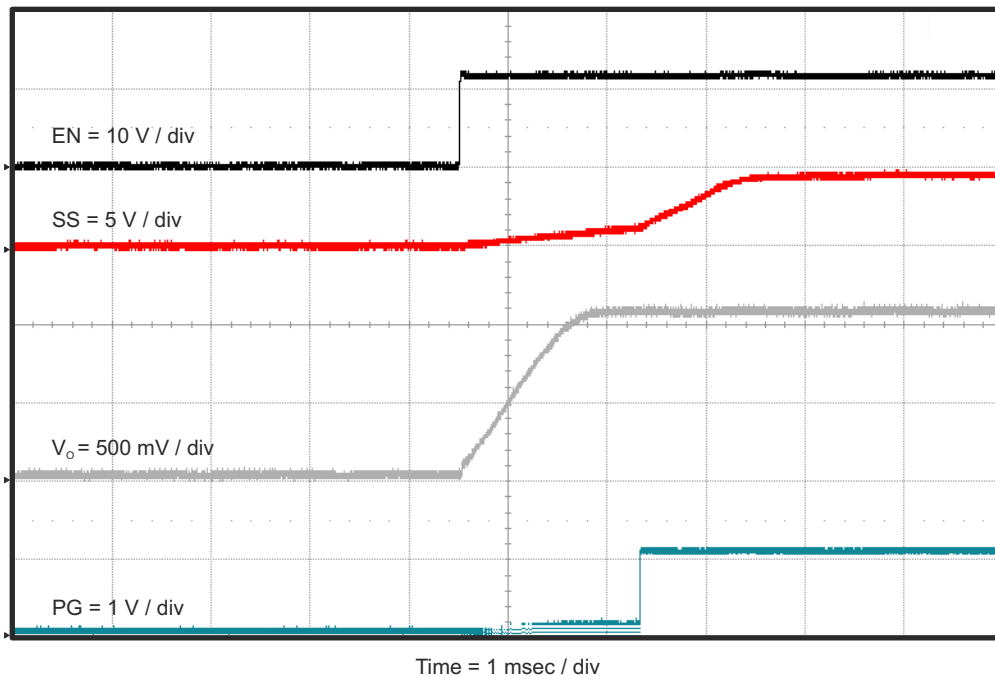

Figure 4-12. TPS562210EVM-663 Start-Up Relative to EN
The TPS562210EVM-663 start-up waveform relative to enable (EN) is shown in Figure 4-12. Load = 1 Ω resistive.